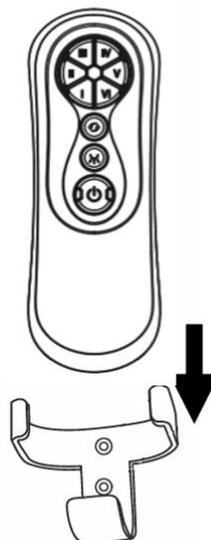

Fig. 11b
2. Slide the remote into the holder. (Fig. 11b)